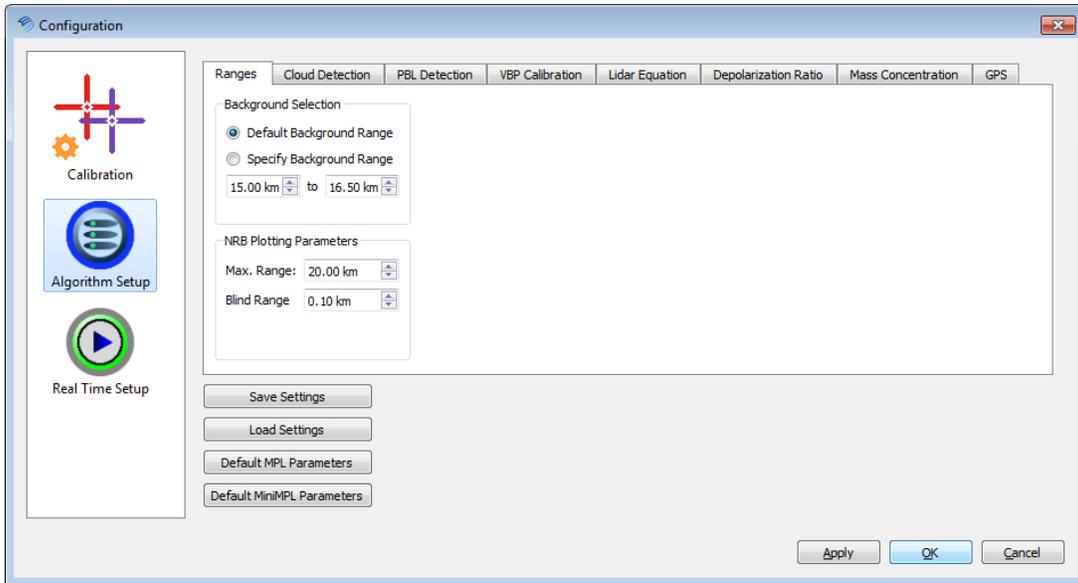

Figure 3: Configure Collection Parameters for LiDAR Type
4.2.5. The software needs to be configured for the LiDAR type before collecting data. To do this select **Configure→Algorithm Setup** and select **Default MiniMPL Parameters** or **Default MPL Parameters** (Figure 3). Click **Apply** followed by **OK** to save the changes.